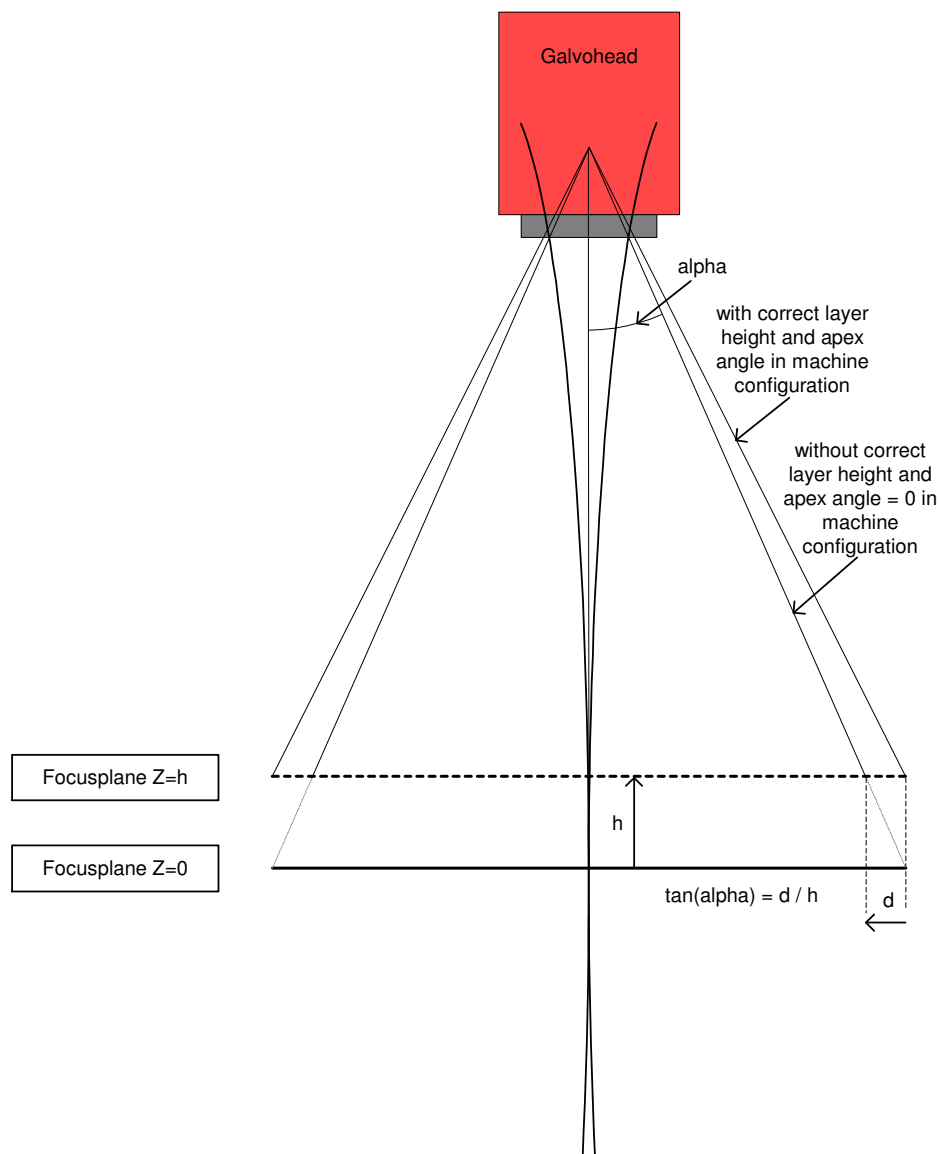

Figure 4 Calculation of apex angles for X and Y
- 11) Calculate the apex angle for X and Y with $\alpha = \arctan(d/h)$. The value d is the result from 10), the value h is the height from 6). See Figure 4. This has to be done for X and Y.